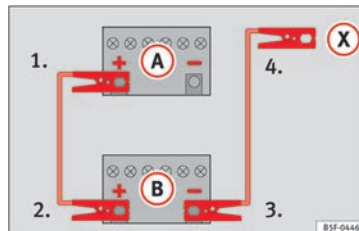

Fig. 67 Diagram of connections for vehicles without Start Stop system
2. Connect one end of the *red* jump lead to the positive (+) terminal of the vehicle with the flat battery (A) »» **Fig. 67**.
3. Connect the other end of the *red* jump lead to the positive terminal (+) in the vehicle providing assistance (B).
4. *For vehicles without Start-Stop system:* connect one end of the *black* jump lead to the negative terminal (-) of the vehicle providing the current (B) »» **Fig. 67**.